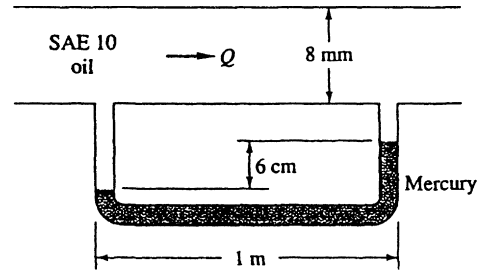

Fig. P4.86
**4.86** SAE 10 oil at 20°C flows between parallel plates 8 mm apart, as in Fig. P4.86. A mercury manometer, with wall pressure taps 1 m apart, registers a 6-cm height, as shown. Estimate the flow rate of oil for this condition.